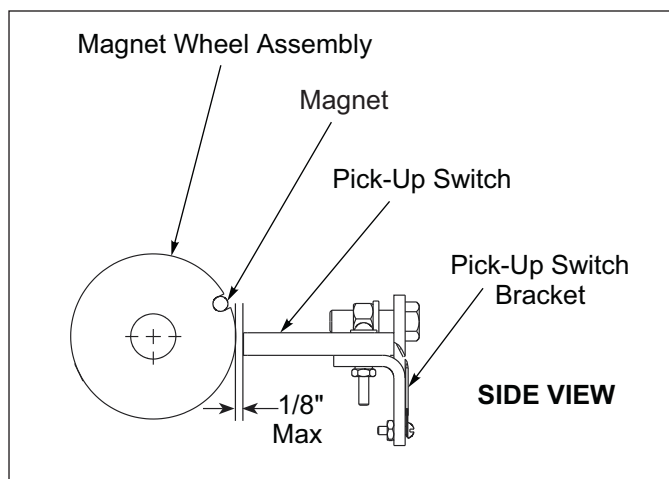

Figure 2-41: Pick-Up Switch Detail
6. Adjust the Pick-Up Switch and Pick-Up Switch Bracket so the centerline of the Magnet Wheel Assembly and Pick-Up Switch are horizontally and vertically aligned with maximum 1/8" between the Magnet Wheel Assembly and Pick-Up Switch. Tighten all Screws. See Figures 2-41 and and 2-42.